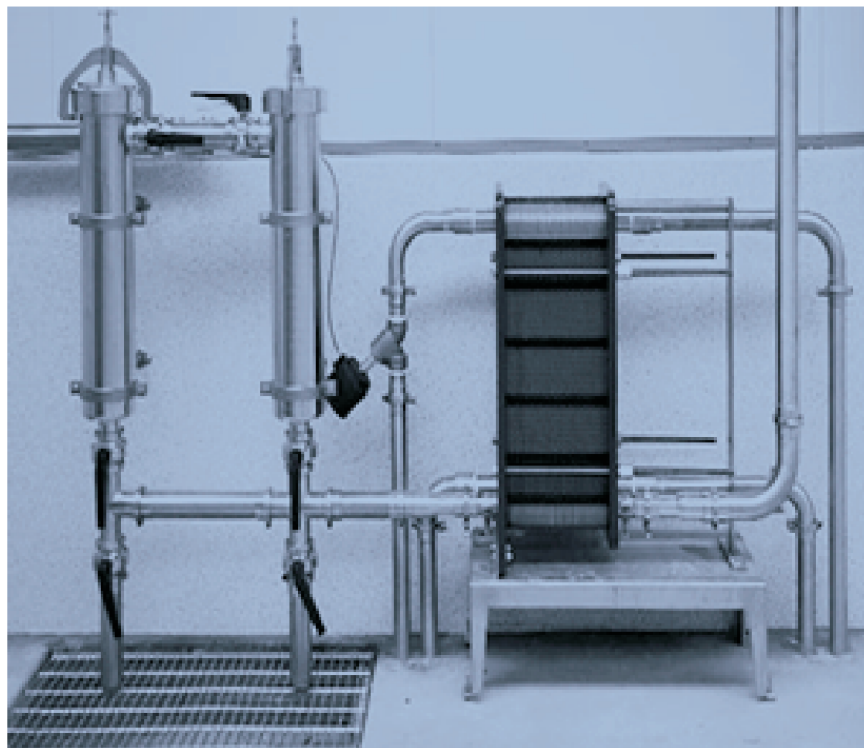

Fig.3.3. In-line milk filters
Filtration of milk ensures that sediment or other extraneous matter is removed from the milk. It is a cloth or pad of the desired pore size which can retain the smallest particle. A frame or support is kept to compress and hold the margins of the cloth or pad so that milk can only pass through the pores the cloth or pad is also supported by perforated metal which will not tear or break under the pressure of the milk. The filter is designed in such a way that cloths or pads can be changed quickly and all parts are easily accessible for washing. Filtration can also be done at farm by in-line filter installed in the automatic milking system. Forcing milk through an in-line filter (Fig. 3.2) by a pump is the most common method of filtering milk in modern milking plants. The in-line filters are of tube in tube type (Table 3.1). The milk filter media consists of a nylon filter bag/pad supported on a perforated stainless steel (SS) filter element. Filter element is held in an SS casing with a blank nut/clamp lid, milk distributor, inlet and outlet connections. In-line filters should be installed before the chiller. This allows the milk to be warm when filtered and facilitates the passage of milk fat through the filter. Filters should be cleaned periodically in 8-10 hours depending upon the deposits. Usually two filters are installed in parallel to facilitate cleaning of filter while other is in use (Fig. 3.3). One of the biggest drawbacks